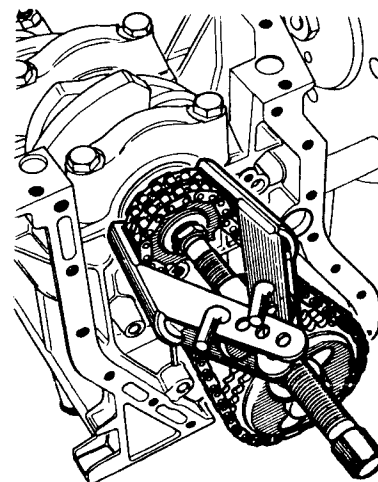

Fig.1.31 Using an extractor to remove the crankshaft sprocket
- 8 Refer to Fig.1.31 and using either an extractor similar to the one shown or two levers behind the crankshaft sprocket, withdraw the crankshaft flange (integral with camshaft) must be eased from its location to keep the chain as straight as possible. When the crankshaft sprocket has been withdrawn past the end of the crankshaft, then the chain may be removed from both the crankshaft and camshaft sprockets.